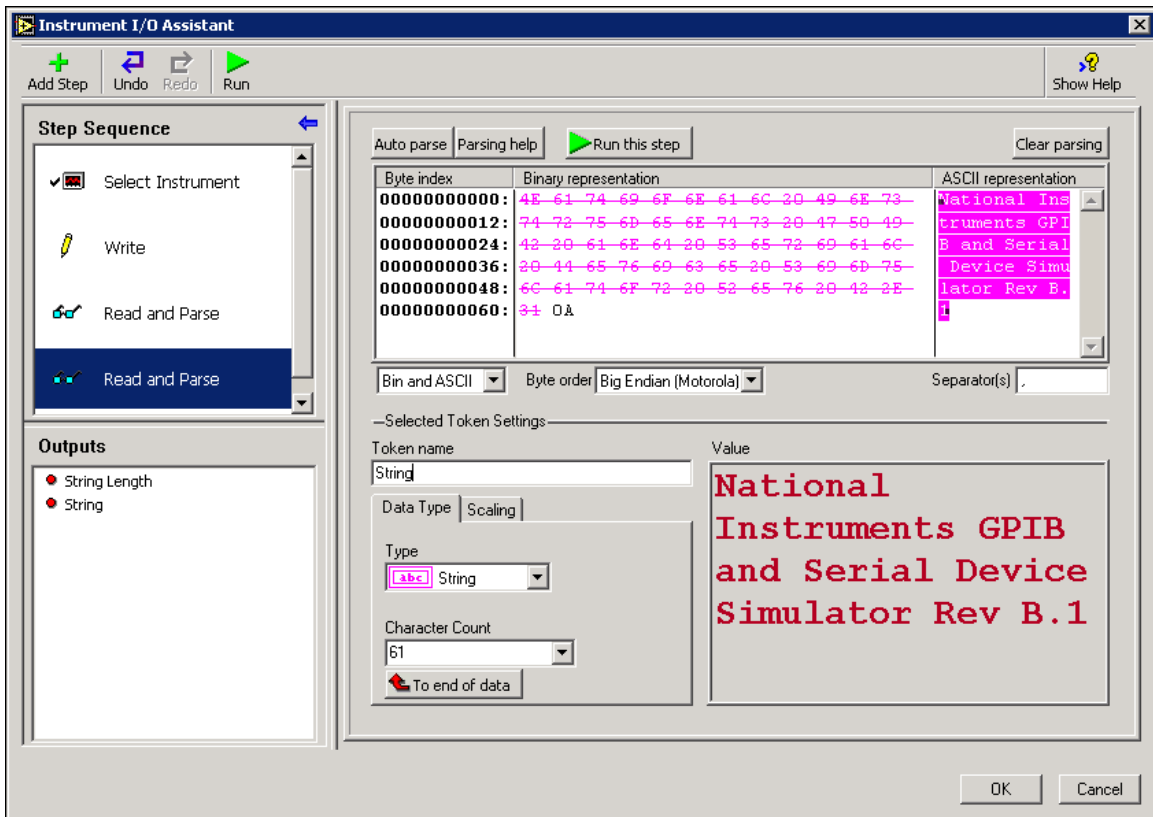

Figure 11.19
11. Rename **Token** to **String** in the **Token name** text box. The configuration window should be similar to the Figure 11.19.